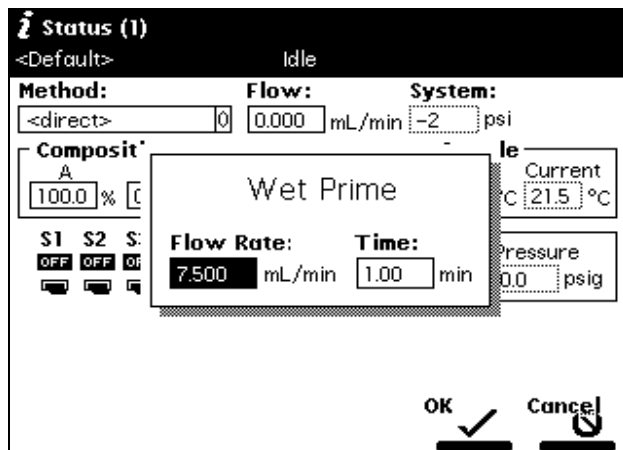

Figure 4-10 Wet Prime Dialog Box
3. Select **Wet Prime**, then press **Enter**. The Wet Prime dialog box appears (Figure 4-10).
4. Select **Wet Prime**, then press **Enter**. The Wet Prime dialog box appears (Figure 4-10).